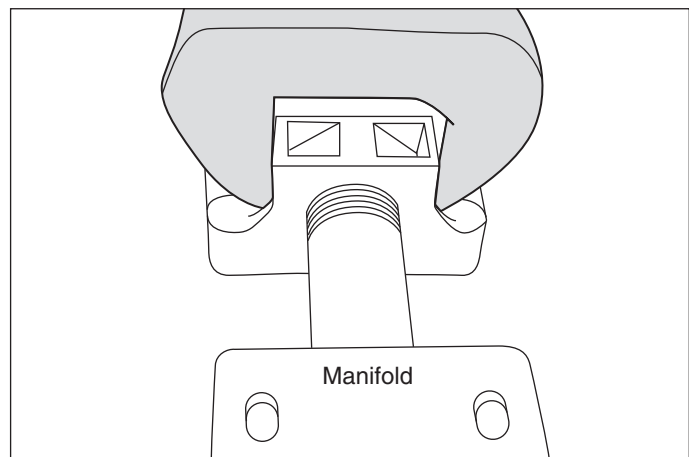

Figure 4-54.
10. Separate the manifold from the gas valve by using a 1-3/16" open end wrench or a large adjustable wrench, and grabbing the gas valve body on the square section directly above the manifold. Turn gas valve body counter clockwise to remove. (See Figure 4-54)